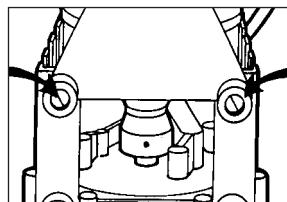

Figure 22
Step 1: Stand pump on oil cover. If pump has foot mounting bracket, remove unit by loosening foot screws (Figure 22).